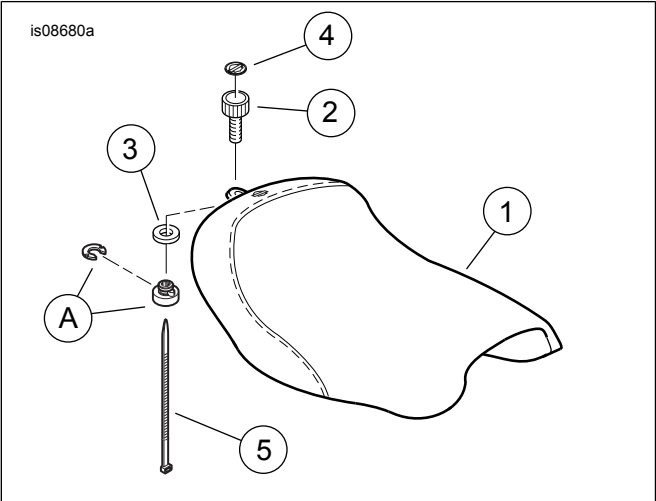

Figure 4. Service Parts: Dyna Solo Seat Kit
See Figure 4 and Table 1.
2. See Figure 4. Secure the seat to the fender with the knurled knob (2) and nylon washer (3) from the kit.